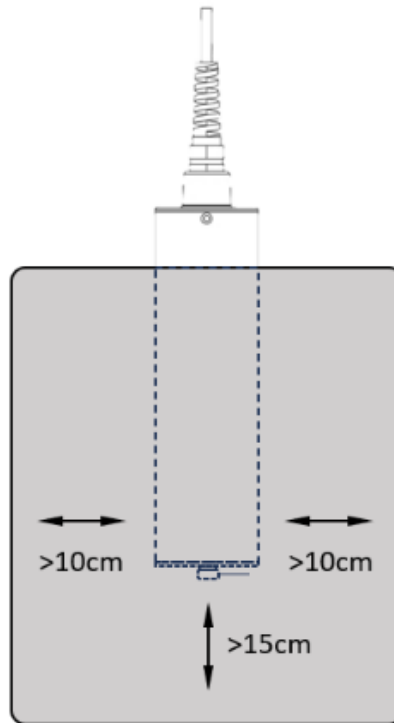

Figure 7A – Light Covered Oversized Bucket for Calibration with Sensor >15cm from bottom and >10cm from wall
2. Insert the sensor in an opaque oversized bucket and away from direct sunlight. The LT-63X series sensor should be calibrated with a minimum distance of >15cm from the bottom of water container to the lens of the sensor and a minimum of >10cm from the vessel wall on all sides. (as shown in Figure 7A). Add bubble-free deionized water or water with <1.0NTU of turbidity container and wait for the sensor reading to stabilize.
2. Remove and insert the LT-63X series sensor into an opaque oversized bucket and away from direct sunlight and >15cm from container bottom and walls (as shown in Figure 7A) and add the midpoint calibration solution (Please refer to the table in the previous section for the midpoint turbidity calibration range).
2. Remove and insert the LT-63X series sensor into an opaque oversized bucket and away from direct sunlight and >15cm from container bottom and walls (as shown in Figure 7A) Please refer to the table in the previous section for the highpoint turbidity calibration range).
2. Insert the sensor in an opaque oversized bucket and away from direct sunlight. The LT-63X series sensor should be calibrated with a minimum distance of >15cm from the bottom of water container to the lens of the sensor and a minimum of >10cm from the vessel wall on all sides. (as shown in Figure7A). Add bubble-free deionized water or water with <1.0NTU of turbidity container and wait for the sensor reading to stabilize.
2. Remove and insert the LT-63X series sensor into an opaque oversized bucket and away from direct sunlight and >15cm from container bottom and walls (as shown in Figure 7A) and add the midpoint calibration solution(Please refer to the table in the previous section for the midpoint turbidity calibration range).
2. Remove and insert the LT-63X series sensor into an opaque oversized bucket and away from direct sunlight and >15cm from container bottom and walls (as shown in Figure 7A) (Please refer to the table in the previous section for the highpoint turbidity calibration range).